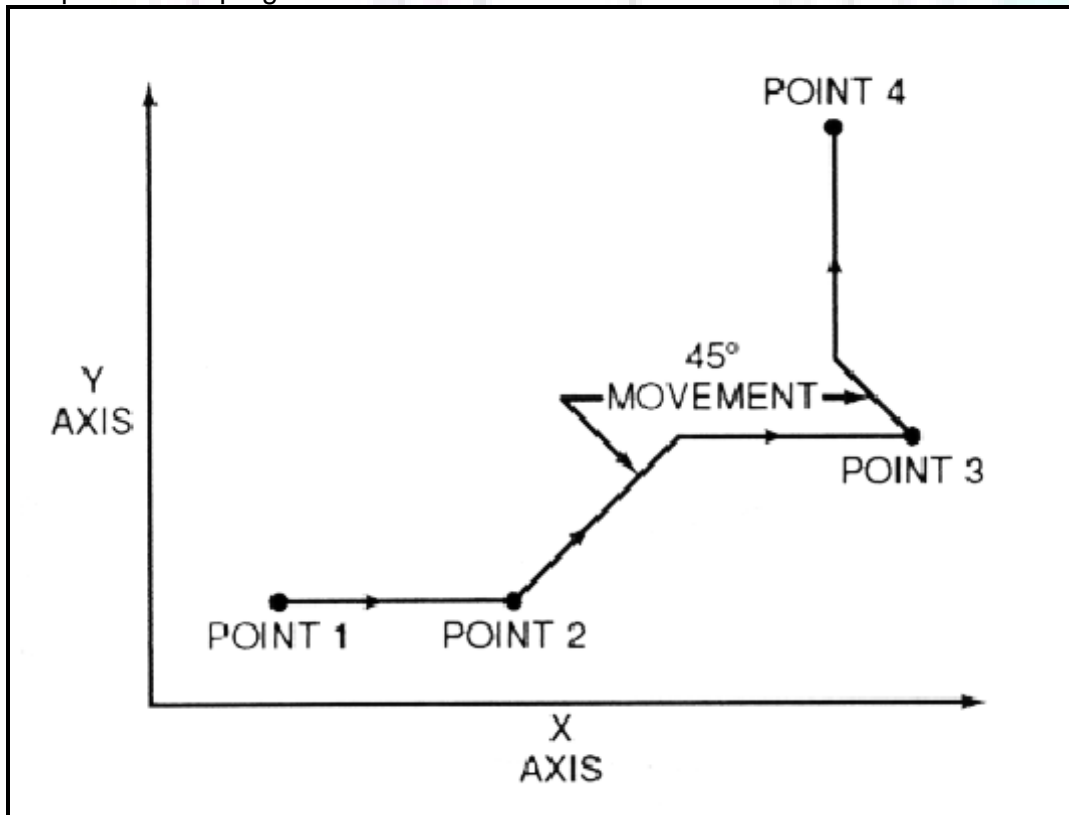

Fig. 9: The path followed by point-to-point positioning to reach various programmed points (machining locations) on the XY axis.
Point-to-point positioning is used when it is necessary to accurately locate the spindle, or the workpiece mounted on the machine table, at one or more specific Locations to perform such operations as drilling, reaming, boring, tapping, and punching (Fig.9). Point-to-point positioning is the process of positioning from one coordinate (XY) position or location to another, performing the machining operation, and continuing this pattern until all the operations have been completed at all programmed locations.
In Fig. 9 point 1 to point 2 is a straight line, and the machine moves only along the X axis; but points 2 and 3 require that motion along both the X and Y axes takes place. As the distance in the X direction is greater than in the Y direction, Y will reach its position first, leaving X to travel in a straight line for the remaining distance. A similar motion takes place between points 3 and 4.